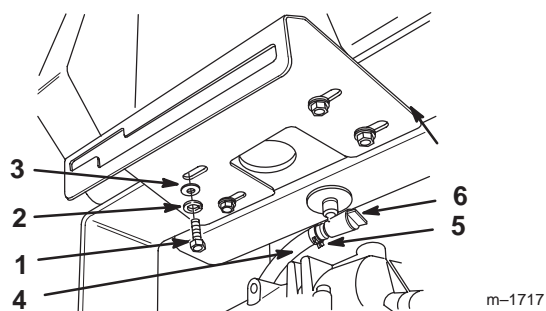

Figure 2
2. Secure control panel and fuel tank to rear frame with (4) 7/8 in. (22.5 mm) bolts, lock washers and washers (Fig. 2).
3. Slide hose clamp onto fuel line (Fig. 2). Push fuel line onto fuel tank fitting and secure with hose clamp (Fig. 2).